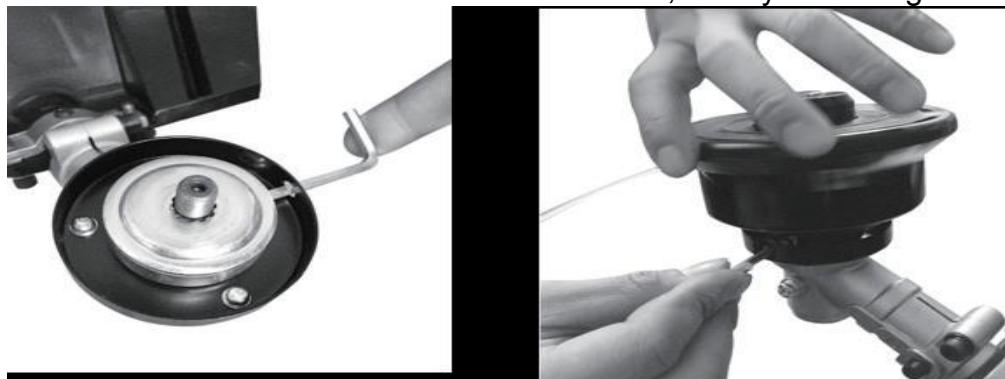

Fig.7
**Fit the Nylon cutting head.(Fig.7)**